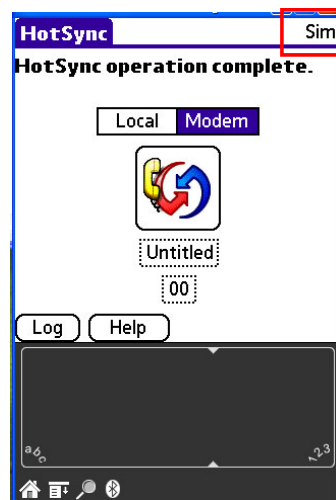

Fig 2-6:
When prompted for an ID of the handheld, enter the ID of your first handheld. If you are going to be using multiple handhelds for this application, choose a name that is easily identified and make sure that a different name is used for each handheld – ie: each handheld must have a unique ID. One naming convention is to identify each handheld by their unique serial number. After the handheld has been successfully synchronized with this ID (see below), the HotSync ID should appear in the top right corner of the HotSync application screen (see Fig 2-6). For ease of identification label each handheld with its ID.
- After the HotSync session has started, look at the desktop, the HotSync manager will prompt for the name of the handheld since the handheld's identity is not known. Click on the name of the handheld you named during the Palm Desktop installation, eg Sim (see figure 2-6)